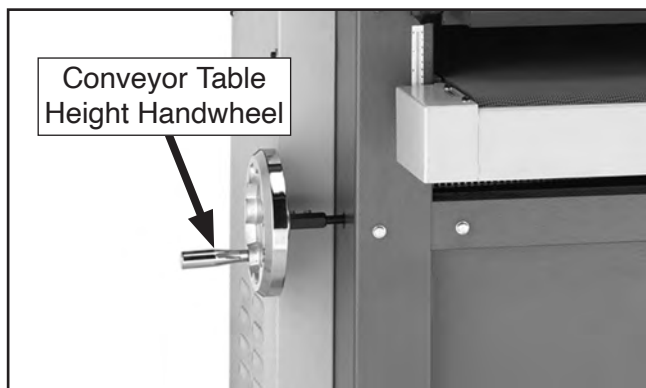

Figure 30. Conveyor table height handwheel.
1. Rotate conveyor table height handwheel, shown in **Figure 30**, until conveyor table is well below sanding drum, then raise conveyor table, allowing a gap between workpiece and sanding drum.